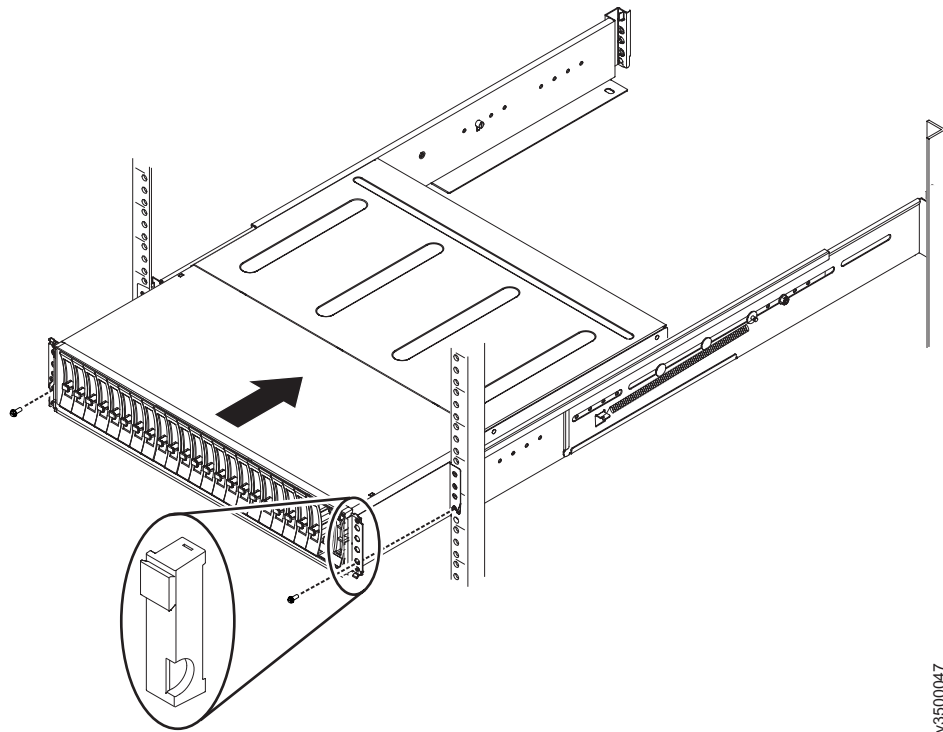

Figure 11. Inserting the enclosure
2. Carefully slide the enclosure into the rack along the rails until the enclosure is fully inserted (see Figure 11).
5. Reinstall the left and right end caps as shown in Figure 11 on page 16. The left end cap has indicator windows that align with the status LEDs (light-emitting diodes) on the edge of the enclosure.